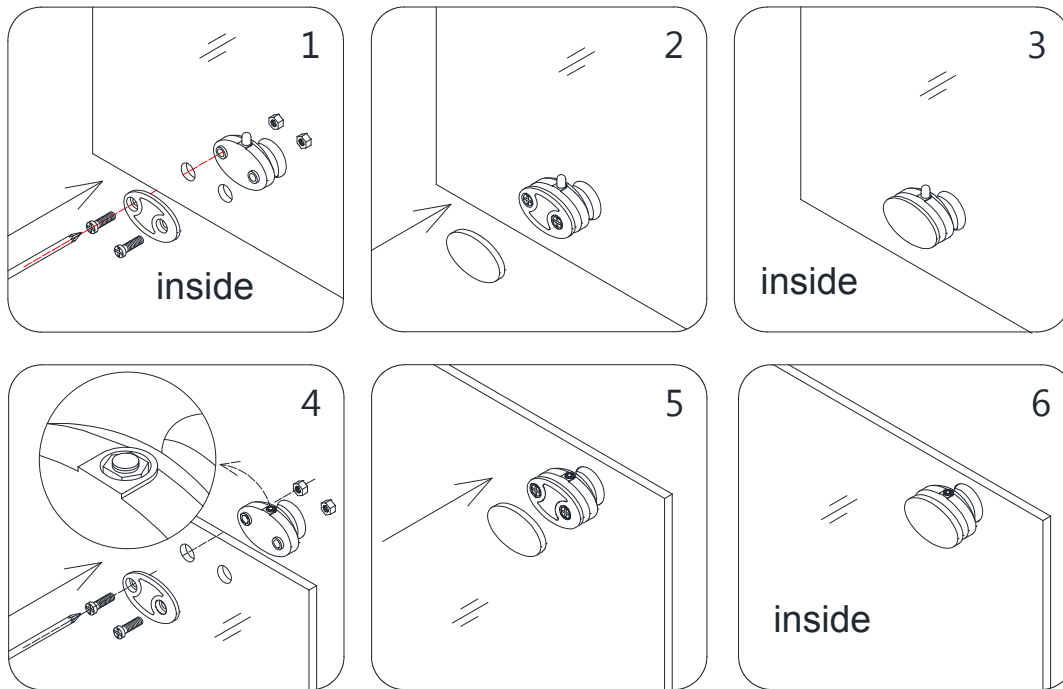

Fig 13
11. Fasten the top and the bottom **Wheel Assemblies (#17)** to the **Door Glass (#04)**. All wheels should be installed to face the outside of the shower. The door can be adjusted using the adjustable bolt on the top wheels (**Fig. #13.4**). The push-button on the bottom wheel should point up, and can be pressed to release the spring-loaded bottom wheel to assist in installation into the **Bottom Guide Rail (#03)**. Be sure the handle holes are on the correct side for the installation. (**Fig 13**)